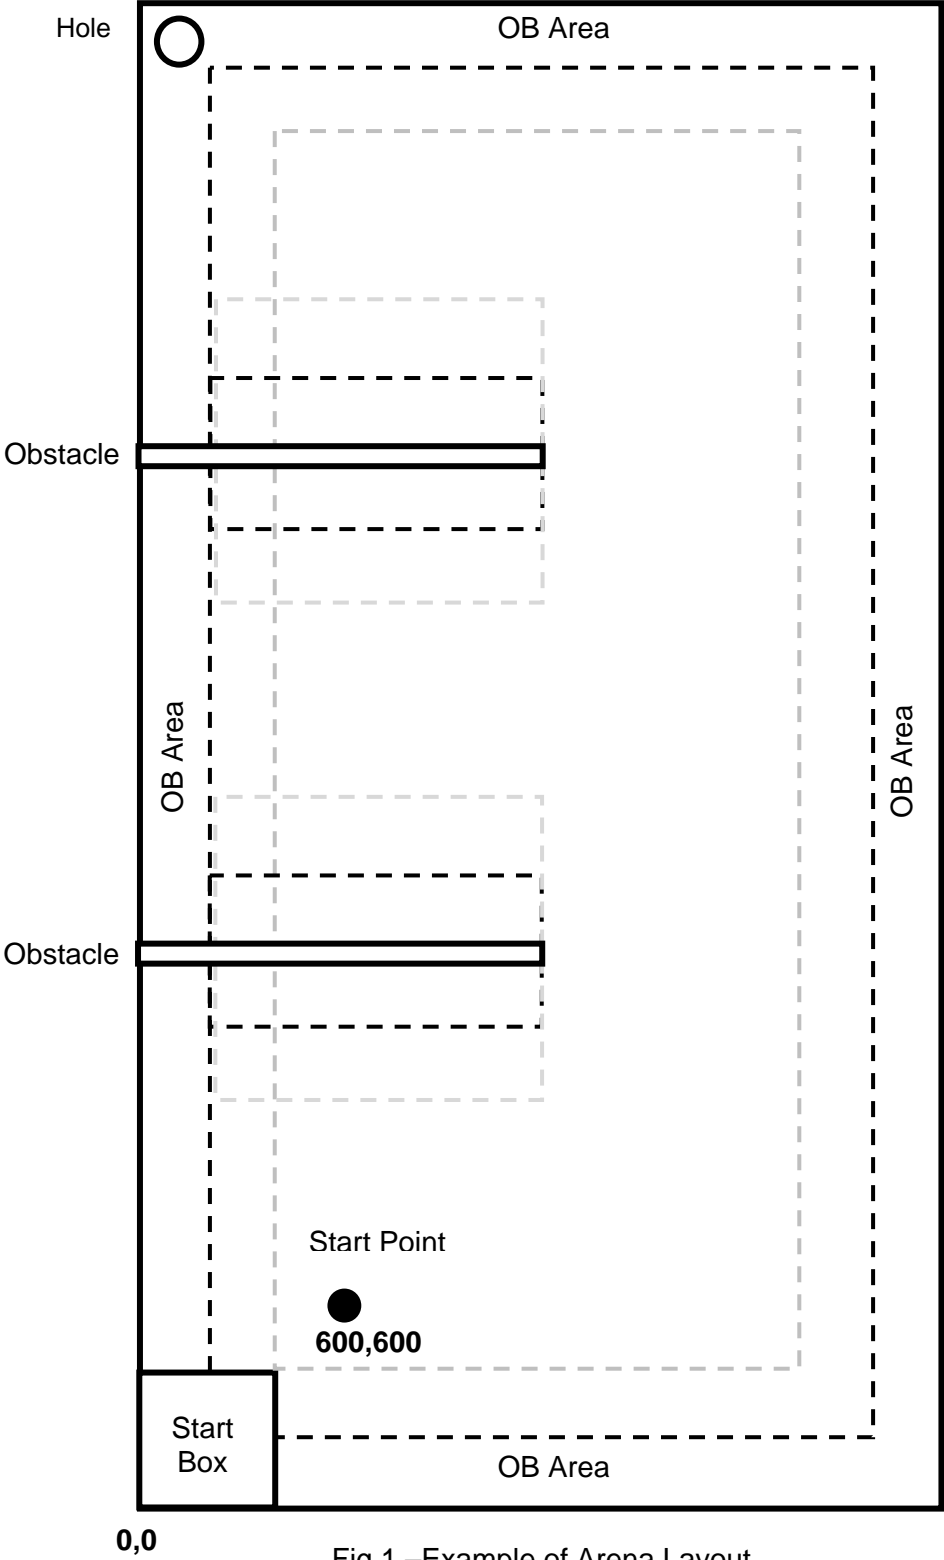

Fig 1 –Example of Arena Layout
- 2.1 The arena layout is shown in Fig.1.